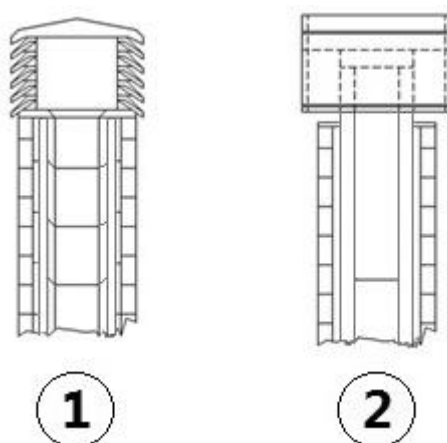

Fig. 5 - Anti-wind chimney pots
- We recommend using an anti-wind chimney pot, see **Fig. 5**.
- External chimney flue entirely made up of insulated stainless steel pipes, i.e. with double wall of minimum Ø100/120 mm: all must be firmly attached to the wall. For chimney against wind effects please (see **Fig. 5**).